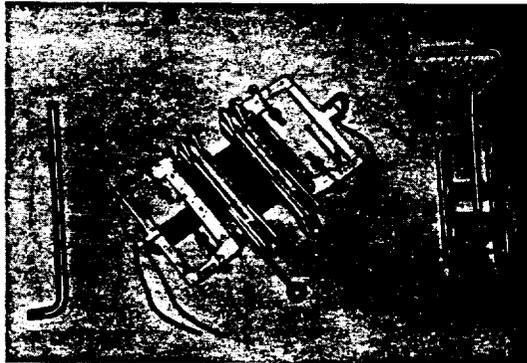

Figure 46. 855A Tool
5.11 The 855A tool (Comcode 103714150, Figure 46) is a manually operated, tandem double mandrel tool designed to permit double half-tapping of equipment cables or extend cable lengths. It consists of four wire fanning combs, four movable wire forming posts, two sets of mandrel retainers, two wire retaining springs, and a removable stuffer head. The stuffer head is used to press the wires simultaneously into the mandrels. The tool may be clamped to the support rod and at splice location with 710A tool mounting hardware.